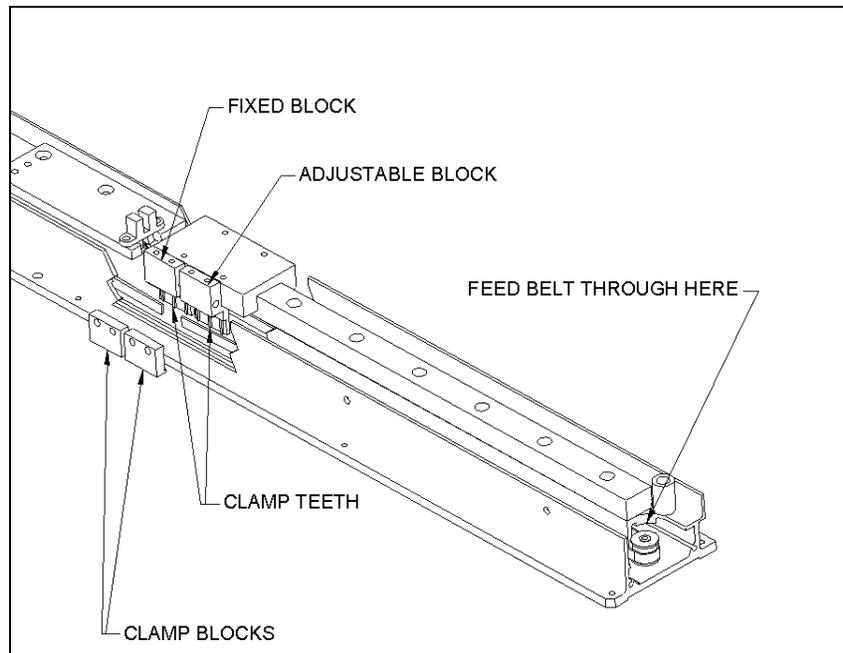

Figure 7-44 Y Belt Assembly
- 1 Prepare a new belt (Part No. 40000050), which is 998 mm long and placed as shown in Figure 7-44. The belt should be wrapped around the motor and idler pulleys. Assemble the idler pulley belt end with a Y-belt adjustable block (Part No. 204010600) using one clamp block (Part No. 204012400) and two M3 x 8 cap head screws. On the motor end of the belt install the Y-belt fixed block (Part No. 204010500) using one clamp block (Part No. 204012400) and two M3 x 8 cap head screws. After the blocks are prepared, use Loctite 222 to secure the screws.